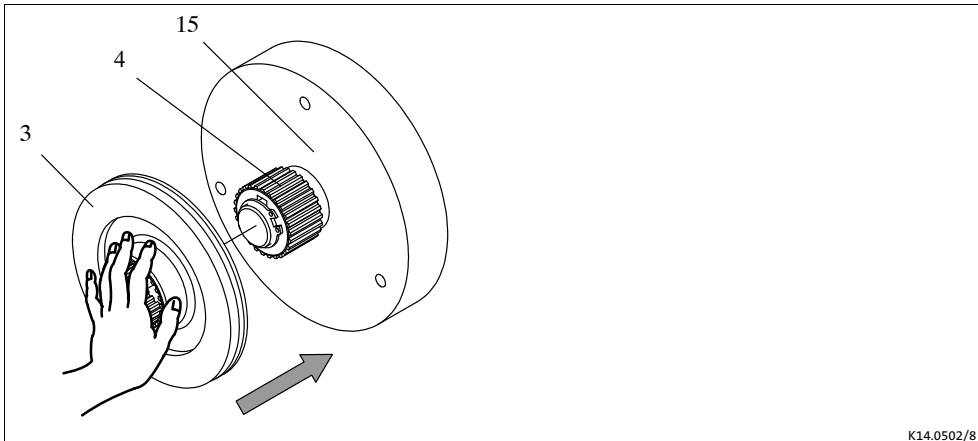

Fig. 3 Rotor mounting
1. Push the rotor (3) onto the hub (4) and check whether it can be moved by hand (Fig. 3).